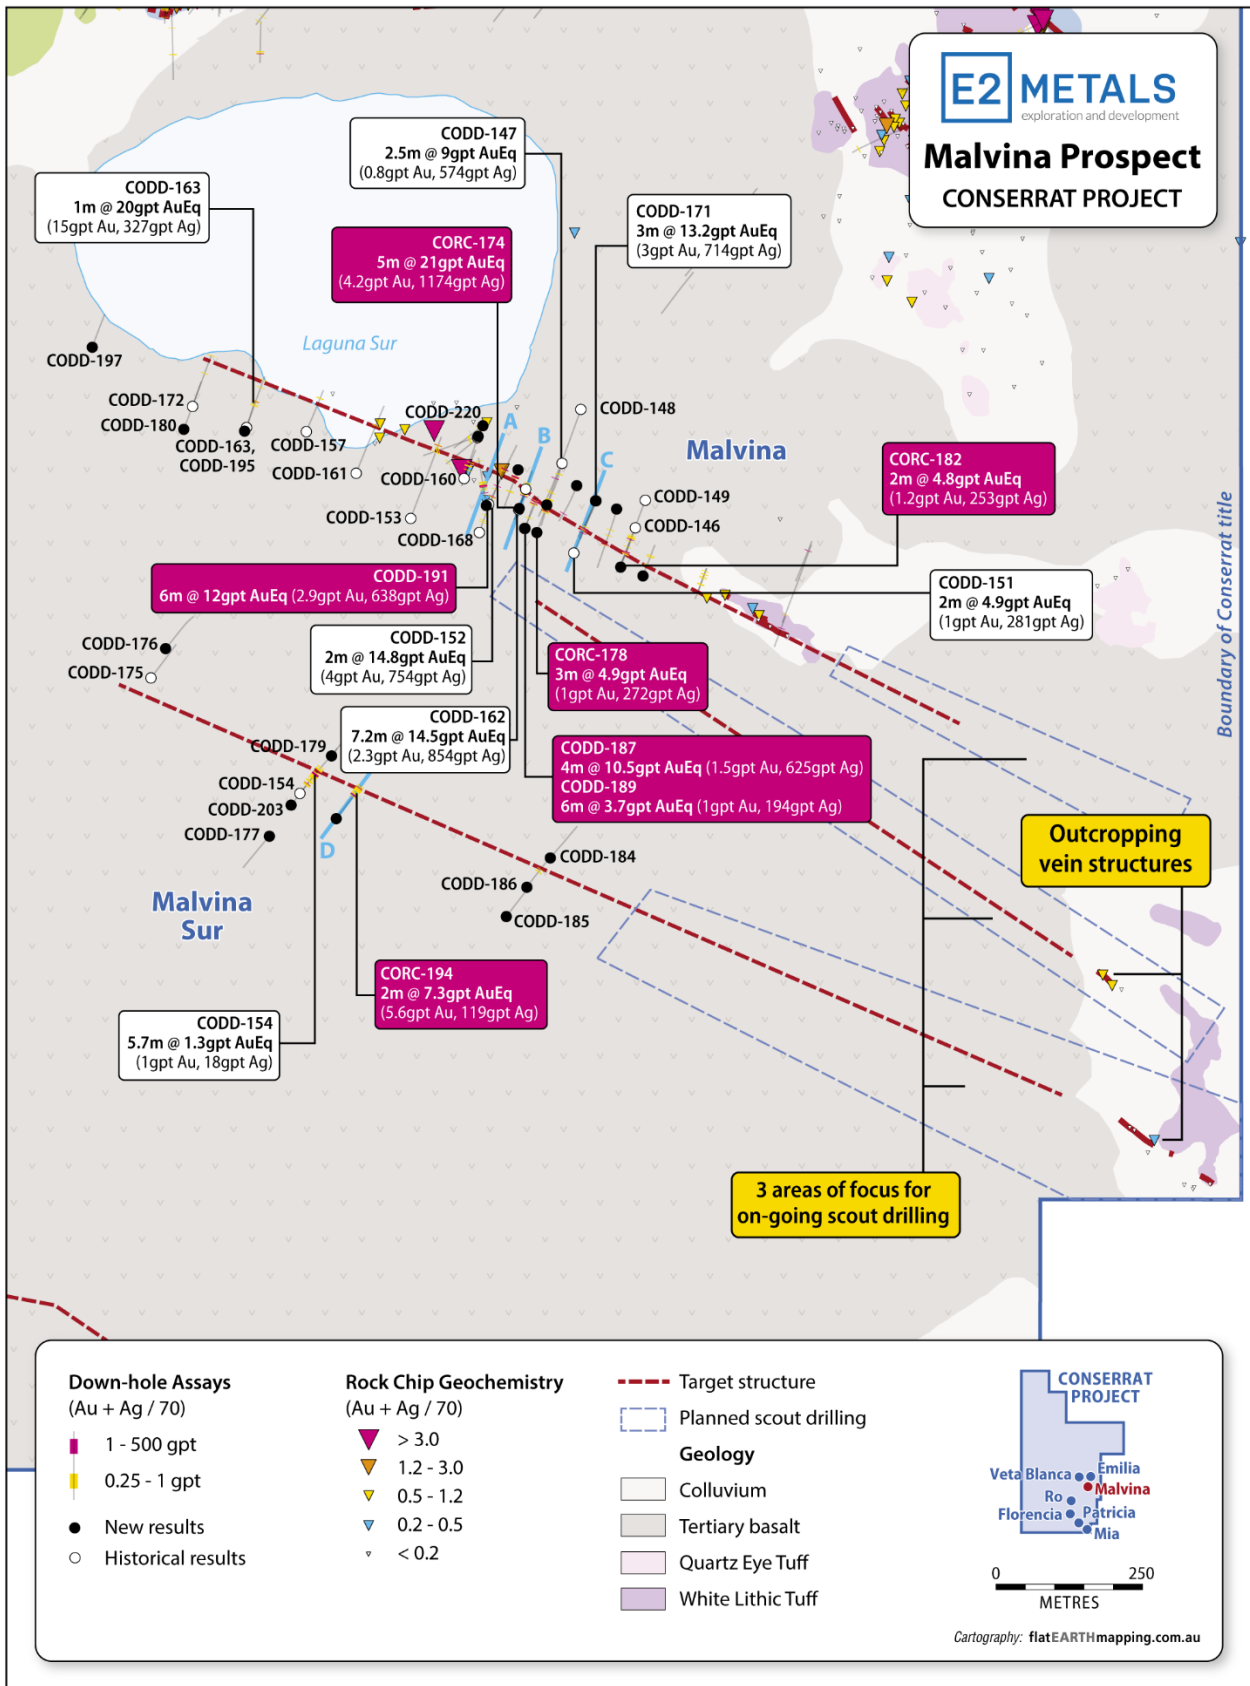

Figure 2: Malvina and Malvina Sur drill hole locations – new results shown as magenta
Two vein structures anomalous in gold and silver (see Figure 2) have been identified near the edge of basalt cover and likely represent the eastern limit of the **Malvina Sur** and **Malvina** structures.
3. Scout drilling within the southeastern extension of the **Malvina** and **Malvina Sur**. This includes vein structures anomalous in gold and silver near the edge of basalt cover (see Figure 2).